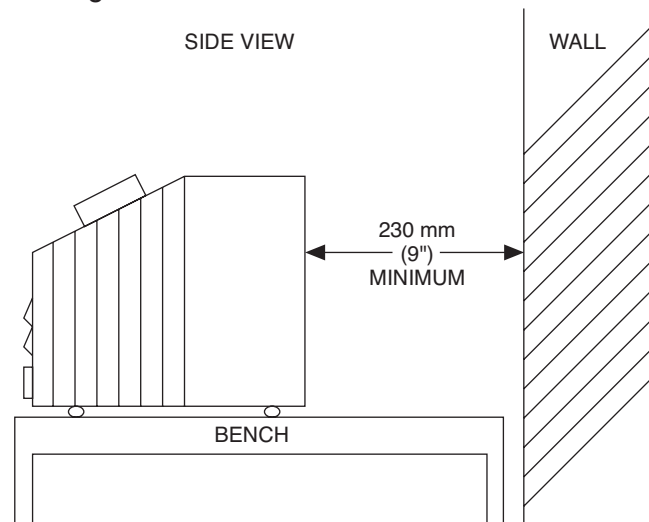

Figure 3-1. Bench Top Position of the hot point® Calibrator
- Leave at least 230 mm (9") of space between the rear of the calibrator and nearby objects for air circulation. Keep the area around the instrument neat and clean. Position the calibrator as shown in Figure 3-1.